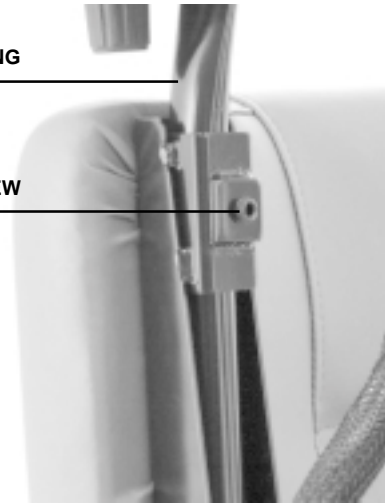

Figure 17. Controller Extension
1. Use a 5-mm hex key to loosen the setscrew. See figure 17.
3. Use a 5-mm hex key to loosen the setscrew. See figure 17.